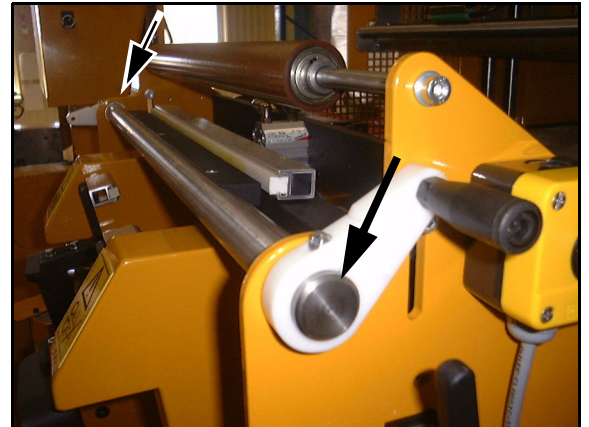

Fig. 39 Loosen the handles
- 1 Loosen both handles on the shaft. See Fig. 39 (Note! reverse mounting is shown)